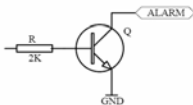

Figure 2
2. Alarm output interface (See Figure 2)